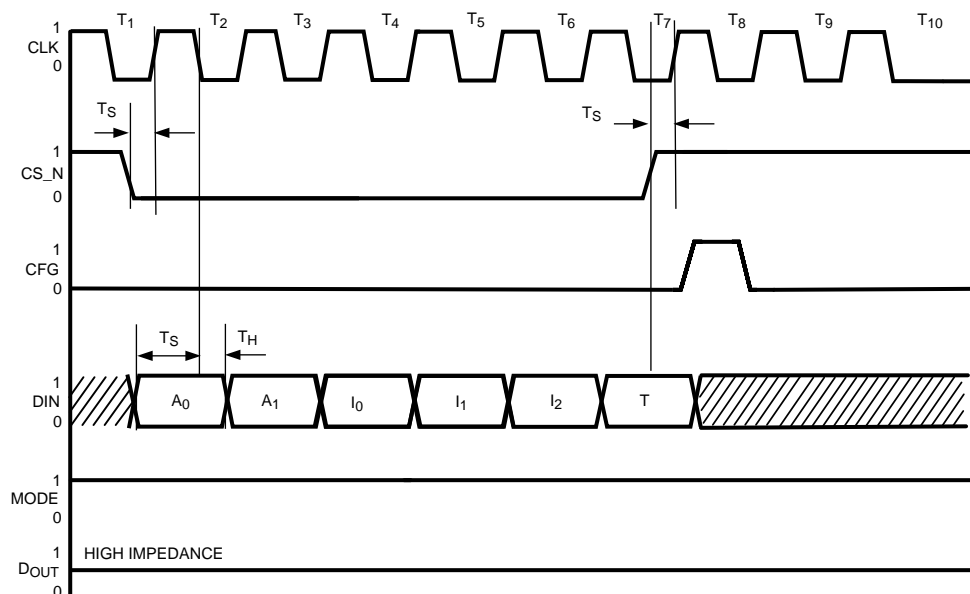

Figure 67. Timing Diagram for Addressed Mode
Also illustrated is the timing relationships for the digital pins in Figure 67. It is important to note that all the pin timing relationships are important, not just the data and clock pins. One example is that the Chip Select pin (CS) must transition low before the first rising edge of the clock signal. This allows the internal timing circuits to synchronize to allow data to be accepted on the next falling edge. The chip select pin must then transition high after the final data bit has been clocked in and before another clock signal positive edge occurs to prevent invalid data from being clocked into the chip. Also, in addressed mode is it necessary for the clock signal to make a low to high transition after the chip select pin has been brought high. If there is not a low to high transition of the clock after the chip select pin goes high subsequent data will not be loaded into the chip properly. The configure (CFG) pin timing is not critical, but it does need to be kept low until all data has been shifted into the crosspoint registers.